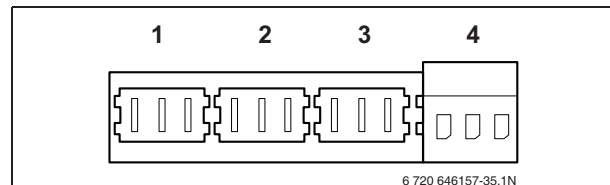

Fig. 35 120 VAC Connections
- Connect the external heating or system pump (for situations where the pump of the Buderus pump group is not used) to the green PK terminal (fig. 35). The maximum allowed connected load of the pump = 250 Watts.
- Connect the DHW pump to the grey PS terminal (fig. 35). The maximum allowed connected load of the pump = 250 Watts.
- Connect the DHW circulation pump to the lilac PZ terminal (fig. 35). The maximum allowed connected load of the pump = 250 Watts.